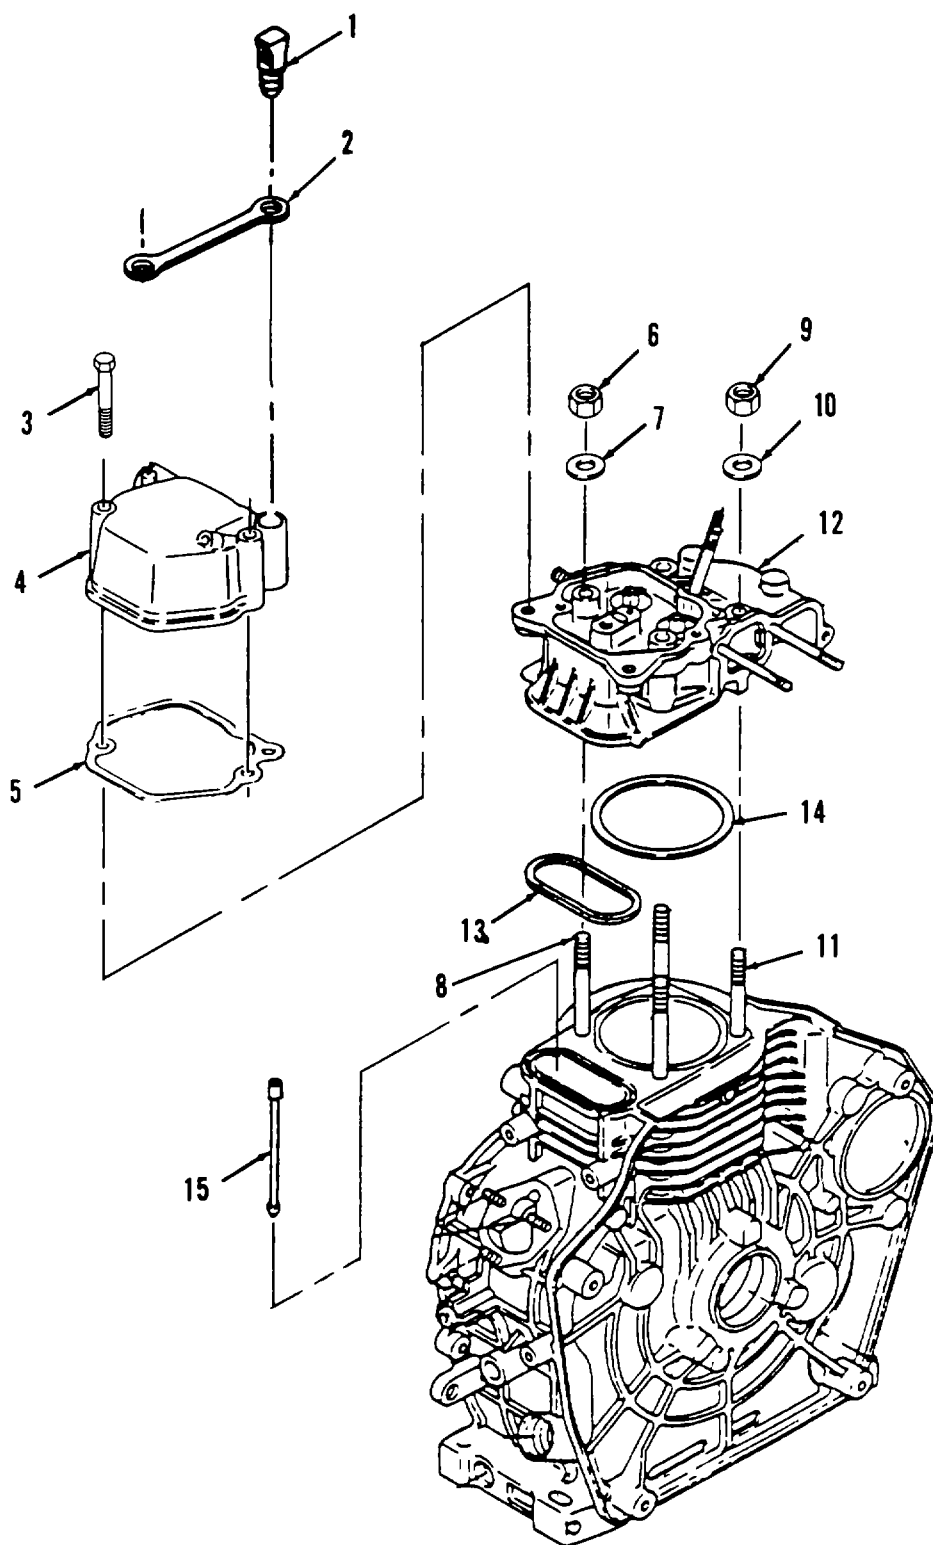

Figure 5-4. Cylinder Head Removal.
a. Removal. (Refer to Figure 5-4).
- (1) Remove plunger (1), holder (2), two screws (3), cylinder head cover (4), and gasket (5).
- (2) Remove two cap nuts (6) and washers (7) from cylinder head studs (8).
- (3) Remove two cylinder head nuts (9) and cylinder head washers (10) from cylinder head studs (11).
- (4) Remove cylinder head assembly (12) by lifting straight up off the four cylinder head studs (8 and 11).
- (5) Remove and discard push rod O-ring (13) and cylinder head gasket (14).
(1) Refer to Figure 5-4. Place new cylinder head gasket (14) and push rod O-ring (13) onto cylinder block.
(2) Install cylinder head (12) onto four studs (8) and (11) protruding from cylinder block.
(3) Position push rods (15) into cylinder block in the cam followers.
- (7) Install rocker arm support (2) with intake and exhaust valve rocker arms attached.
- (8) Tighten rocker arm support bolt (1) with torque wrench to 14.5-16.6 ft-lb (200-230 kg-cm).
- (9) Refer to Figure 5-4. Install gasket (5), cylinder head cover (4), two screws (3), holder (2), and plunger (1).